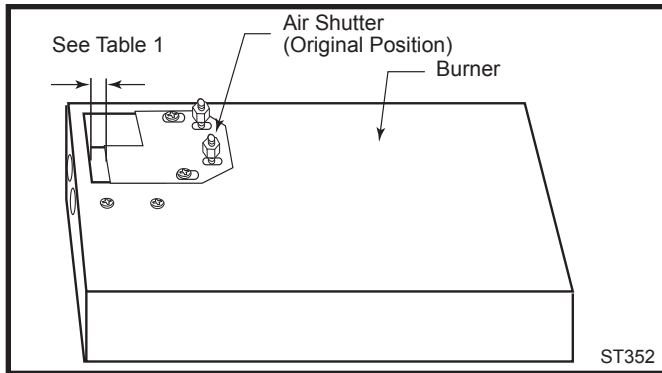

Fig. 38 Air shutter in original from-the-factory position.
**NOTE:** The air shutter may only be adjusted to a more open position. The factory setting is the minimum allowable air shutter opening. (Figs. 38 & 39)